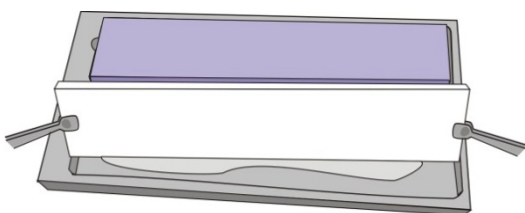

Fig. 4: Dabbing the electrode wick on the PaperPool bottom to remove excess buffer.
4. Remove excess electrode buffer from the wicks by tilting the electrode wicks along one long edge and dab it on the PaperPool bottom (fig. 4).